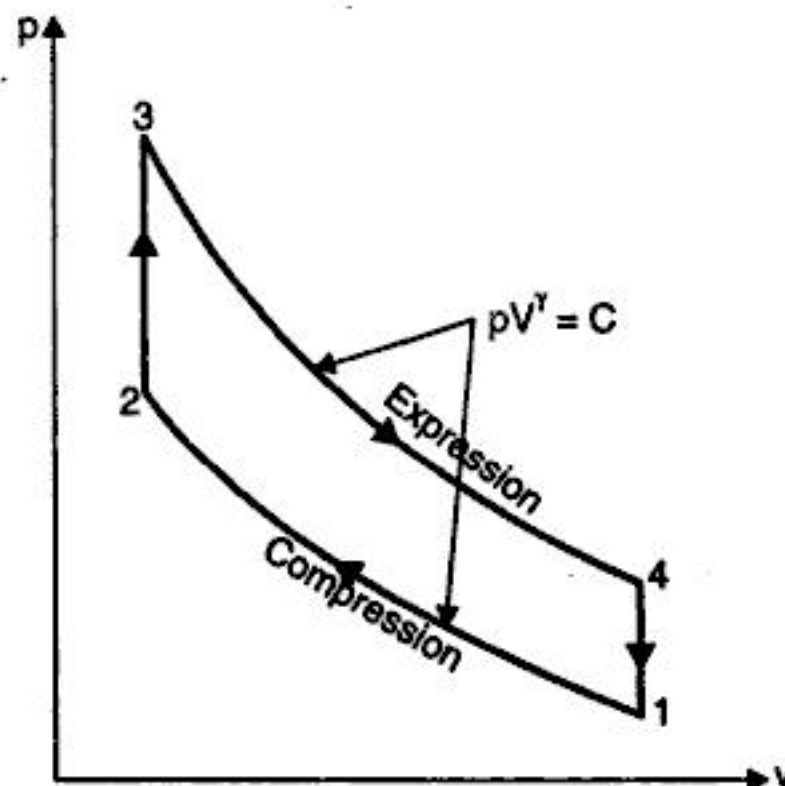

Fig. 3.7
**Solution.** Refer Fig. 3.7. Given :  $p_1 = 100 \text{ kPa} = 10^5 \text{ N/m}^2$  or 1 bar ;